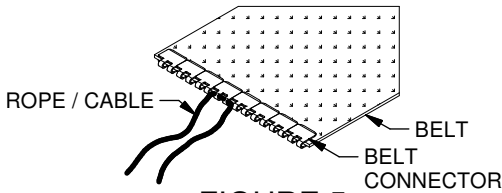

FIGURE 5
10. Assemble the hopper (Figure 5). For Steps 9 to 31 all parts and Bolt Bag can be found in the EPTO or Intake Hardware Box PN# 6685/ 6913.